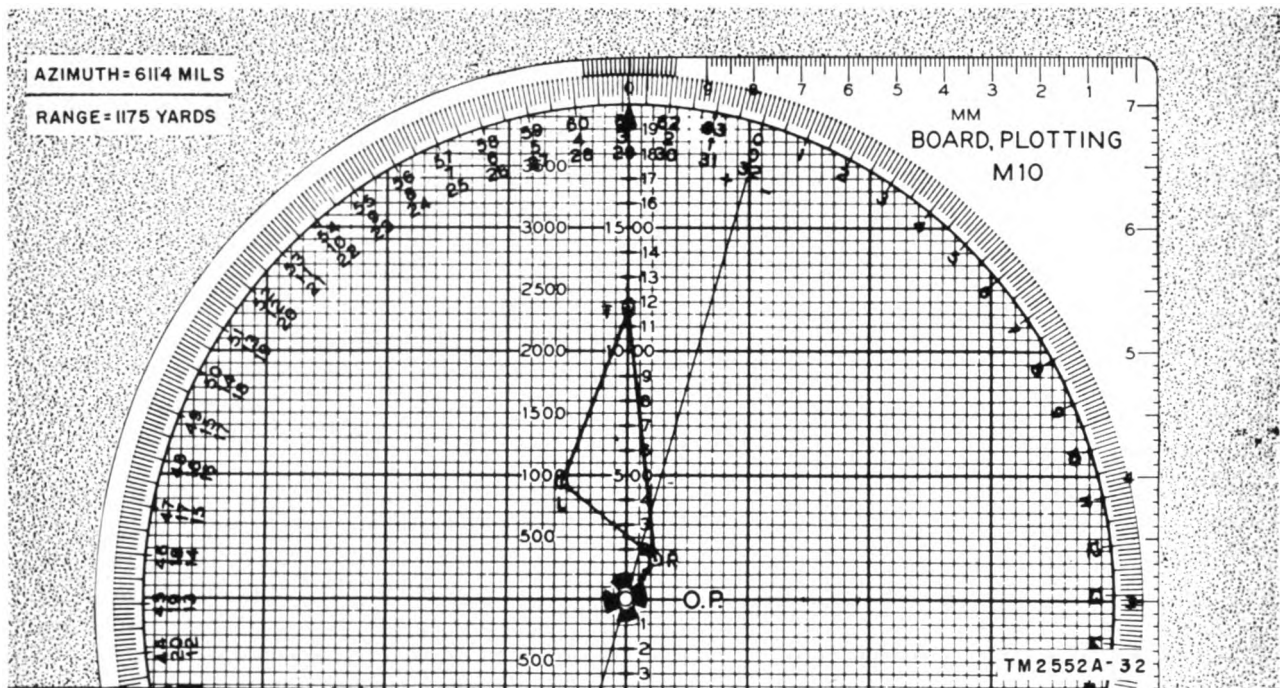

Figure 31. Determining target range and azimuth on Plotting Board M-10.
e. **READING AZIMUTH AND RANGE OF TARGET.** Set the target point over the index line (fig. 31).